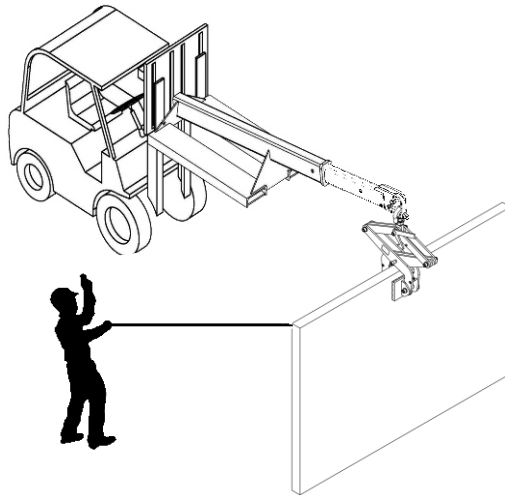

Figure 3.1
**Step 3: Move the stone slab (Figure 3.1)**